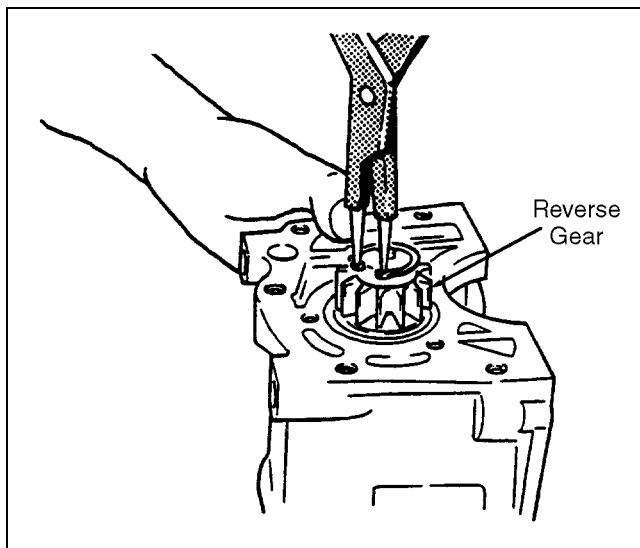

Figure 4G-7. Countershaft ó Step 2
3. Remove the rubber plug and retaining ring from the countershaft (see Figure 4G-8).